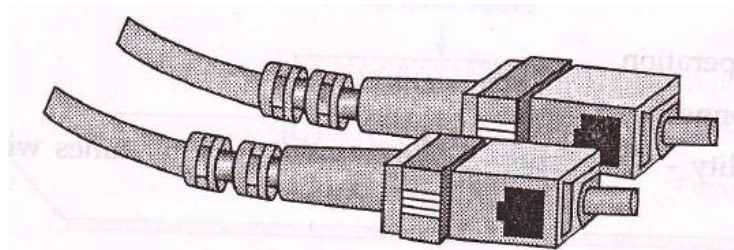

Fig. 4.8.1 SC connector for fiber cable
1. Subscriber Channel (SC) connector.
2. Straight Tip (ST) connector.
- SC connectors are general purpose connections. It has push-pull type locking system. Fig. 4.8.1 shows SC connector.